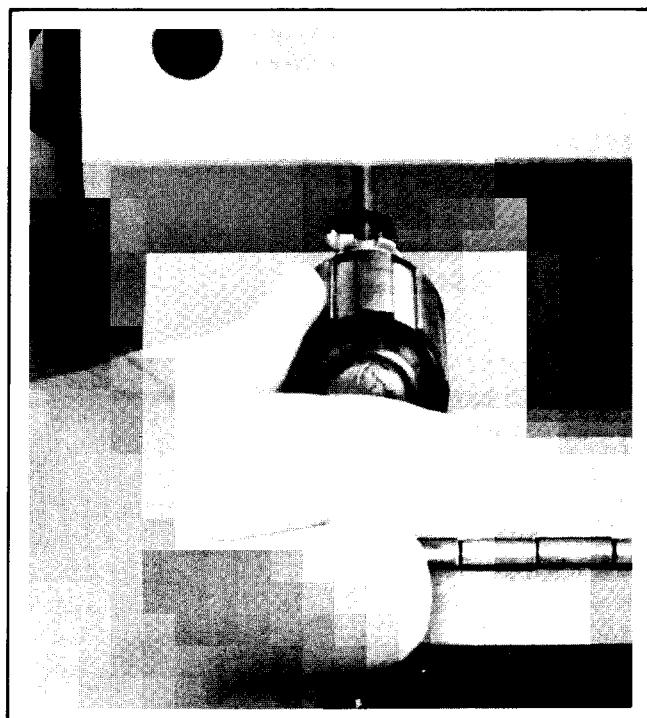

FIGURE 3-18. X-AXIS TRACK BEARING ADJUSTMENT
- b. Move pen arm until it is opposite access slot in rear left corner of mechanical assembly (Figure 3-18).